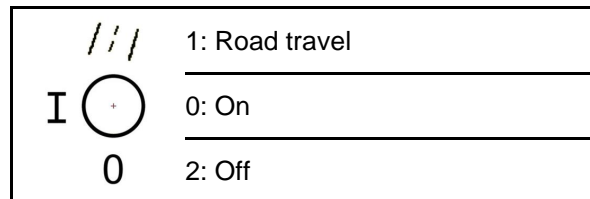

Fig. 101
2. Put the **Control set** operating lever (Fig. 101) to switch position "2".